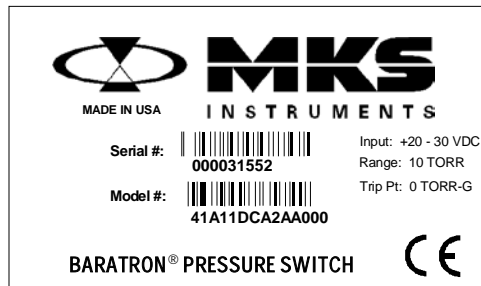

Figure 7: Serial Number Label
The trip point relay is a single pole, double throw switch, one normally open (NO), one normally closed (NC) form “C” relay with contacts rated from 0.1 to 1 ampere, resistive. When the relay is energized, the normally open (NO) contacts will close. The action of the trip point, whether it is energized above or below the trip point, is specified when the unit is ordered. Refer to *Appendix B: Model Code Explanation*, page 43, to determine the trip point action from the model code of the unit. In addition, the serial number label, shown in Figure 7, page 29, lists the trip point action.
Every pressure switch carries a serial number label, as shown in Figure 7. The